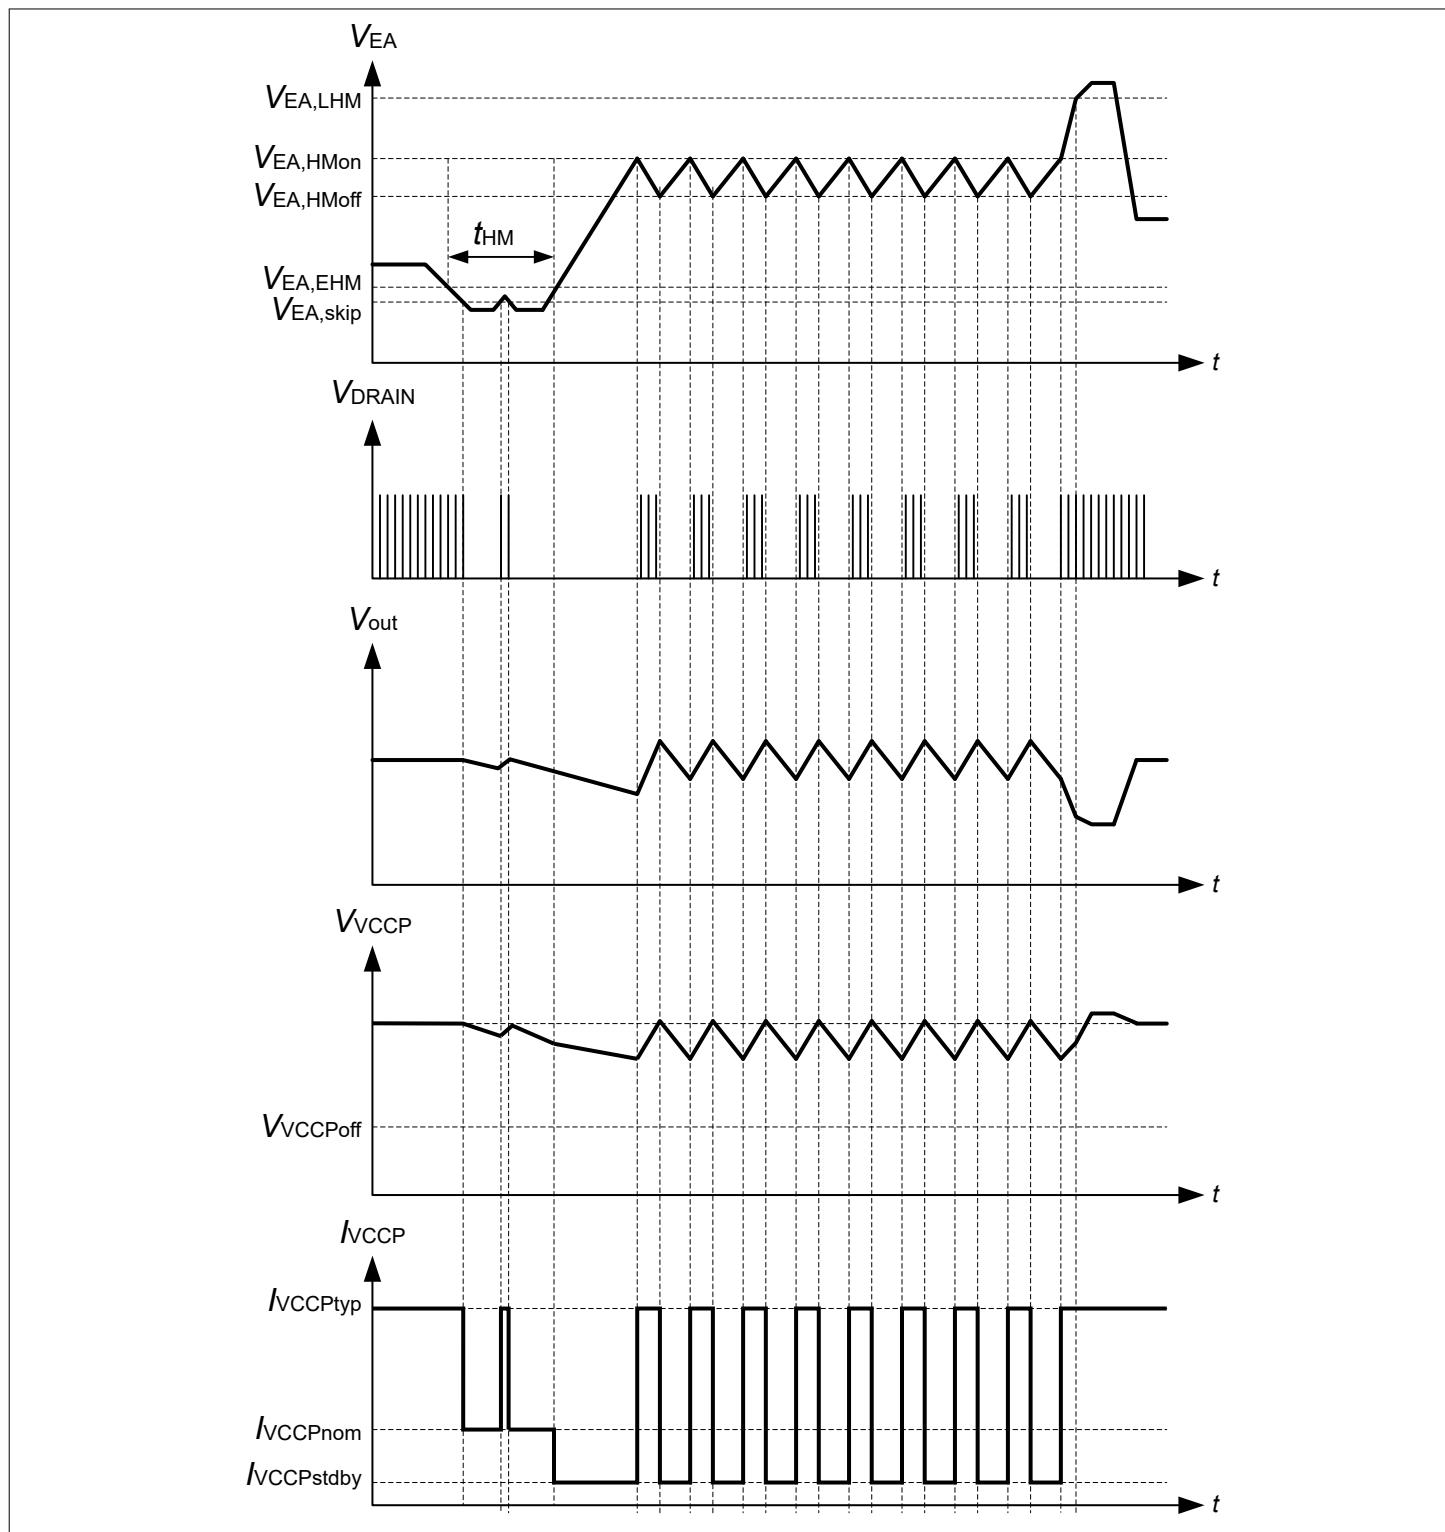

Figure 8
At continuous light-load condition, the controller enters hysteretic mode (HM) to minimize the average power consumption. The hysteretic mode entry level is targeted for low range of output power. For determination of entering hysteretic mode, three conditions apply (see Figure 8):